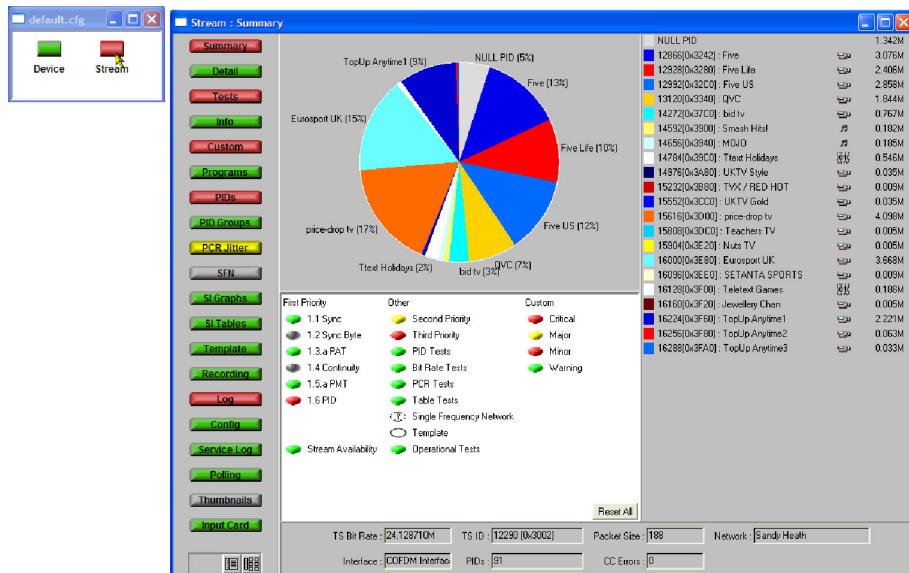

Figure 7: RUI version 2.6.1 display
16. The MTM400 RUI hot spot and Stream Summary windows should now be displayed (see Figure 7).